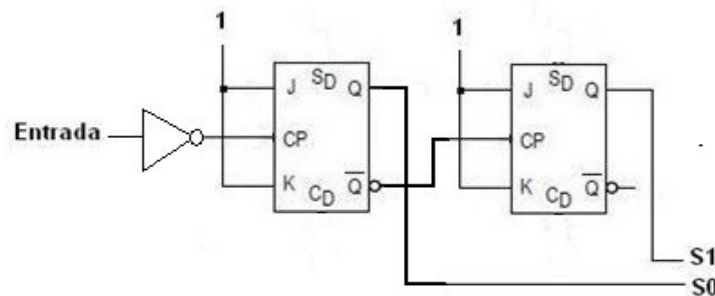

Figure 2.
a) Figure 2 shows a 2-bits upward asynchronous counter composed of two JK flip-flops and an inverter. Implement this circuit in Logisim.
In order to synchronize both counters (simultaneous changes), it is **NECESSARY** to remove the inverter of Figure 2.